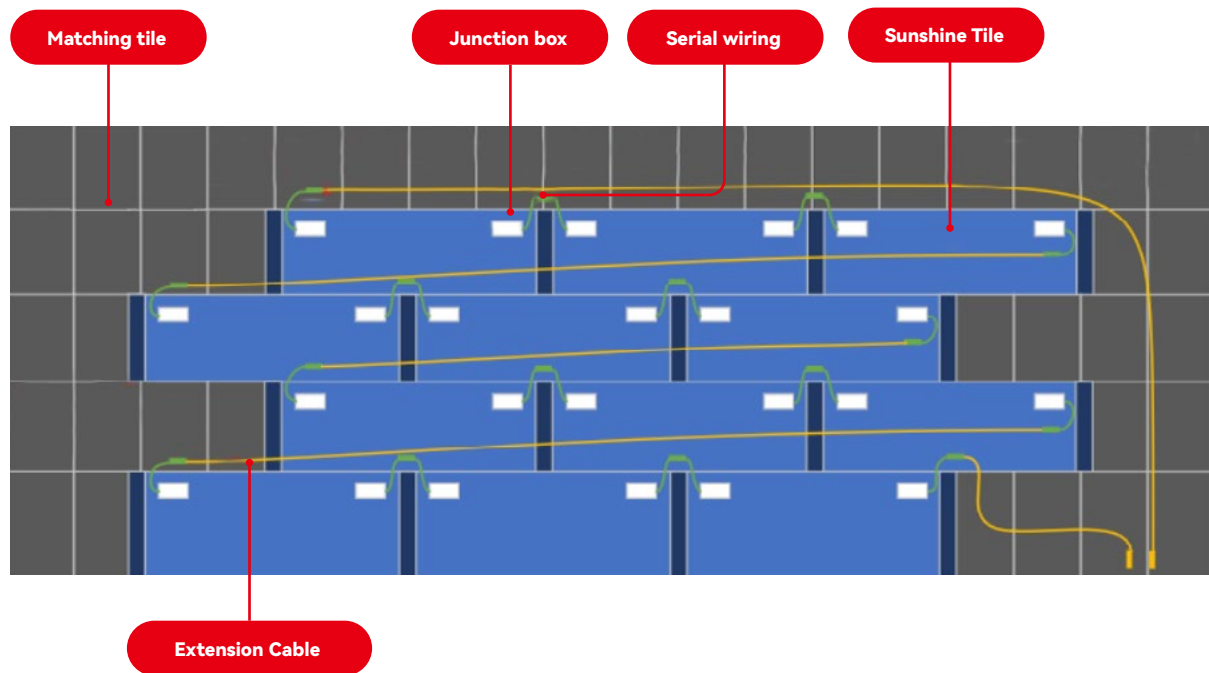

FIGURE 7-3 OPERATION INSTRUCTIONS FOR CONNECTING JUMPER CABLES TO THE SAME TYPE OF THE SUNSHINE TILE(BACK VIEW OF THE ROOF)
- ① Wiring in accordance with the wiring in the electrical schematic.
- ② For products connected in series, the "+" pole of one product is connected to the "-" pole of another product. Extension cables are required if connection of products between different rows is needed. Please use extension cables that are for solar application specifically. Under normal circumstances, the second row can be installed and wired only after the following row has been installed and wired.
- ③ When installing Sunshine Tiles of the same model, extension cables are required for cross-connections. Before moving on to the installation of the next row, one end of the extension cable should be connected and reserved, while the other end is led out to the position where the cross-connection is needed and left waiting for connection (as shown in Figure 7-3).